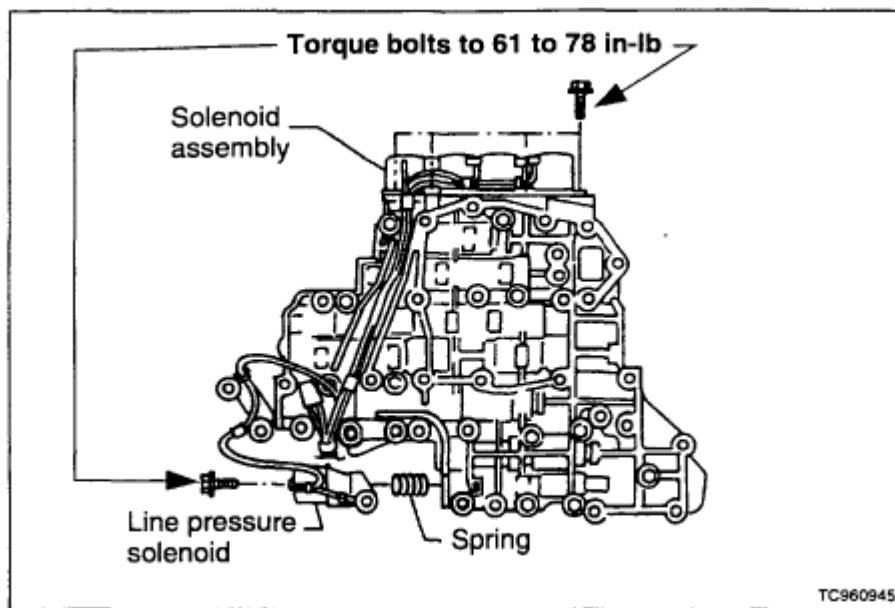

Figure 4
4. Torque the two solenoid valve assembly retaining bolts to 61-78 in-lb as shown in Figure 4.